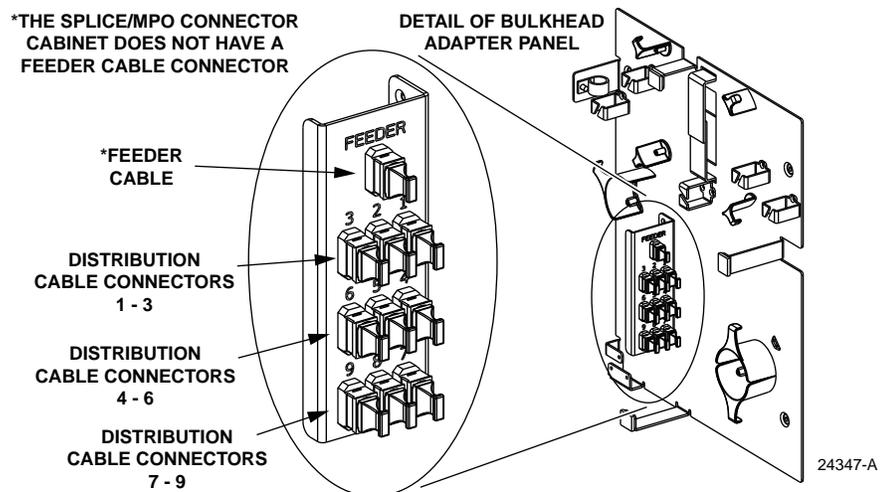

Figure 45. Layout of Bulkhead Adapter Panel
9. Locate the adapters on the bulkhead adapter panel that are designated for the feeder cable and distribution cables. The layout of the bulkhead adapter panel is shown in Figure 45.